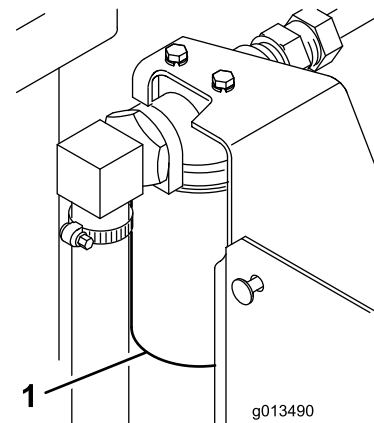

Figure 30
4. Clean the area around the hydraulic oil filter (Figure 30). Remove the filter from the bottom of the filter housing and allow the oil to flow into a drain pan. Use a bottom-type filter wrench. Dispose of the oil filter properly